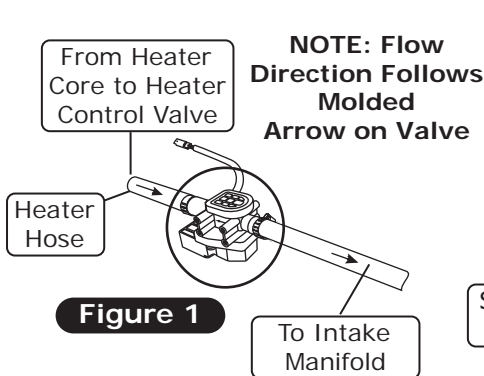

Figure 1
1. Using (2) #8 x 1/2" pan head screws, attach the heater control valve bracket onto the back of the heater control valve, with the mounting hole on top as shown in Photos 1 and 2, below.
2. Install a 4" length of 5/8" heater hose (See Photo 3, below) onto the inlet of the heater control valve (See Photo 4, below). Secure it with a hose clamp (See Photo 4, below). **NOTE: Ensure proper flow direction through the heater control valve. The flow direction follows the molded arrow on the valve (See Figure 1, below).**